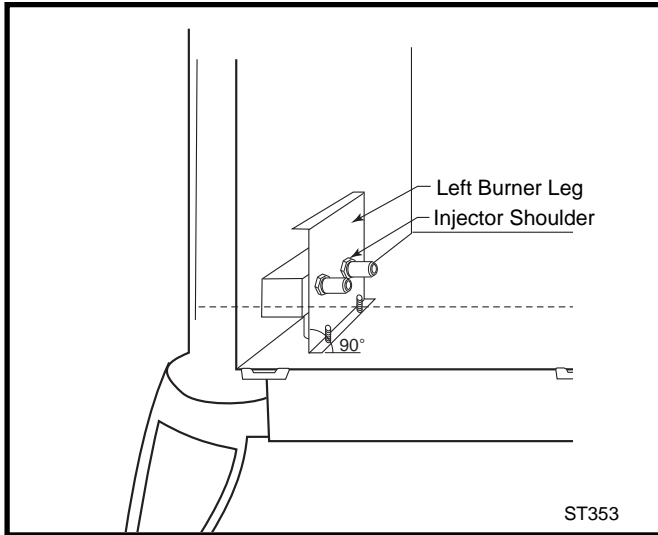

Fig. 41 Be sure to maintain 90° angle at left burner leg.
9. Refasten the two nuts and assemble the burner into the unit by sliding the burner in at an angle with the left side lower than the right side. Slide the left side onto the injectors. Lower the right hand side down into place. Make sure the burner is as far left as possible and the injector shoulders are inside the burner. **NOTE:** It is very critical to keep the left burner leg, which holds the injectors, at a 90° angle to the base. (Fig. 41) This keeps the orifices aligned with tubes on the inside of the burner. Failure to do so could affect the flame appearance and performance of the unit.